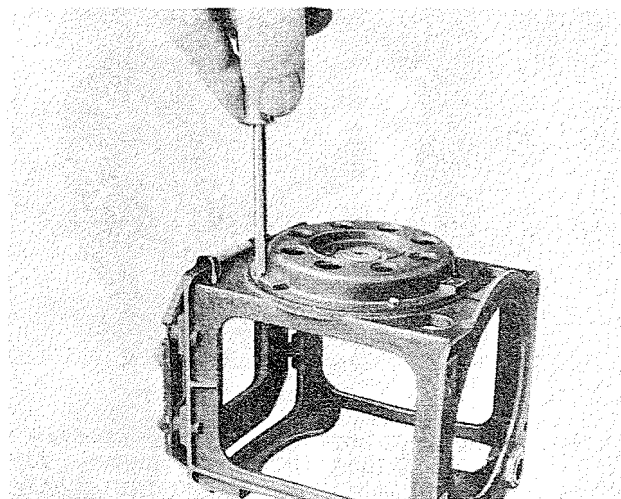

Figure 17
(10) Remove the four fillister-head machine screws and lock washers, and take the top bracket assembly off the chassis. (See figure 17.)
(11) Remove the bearing from the top bracket assembly, using bearing puller T100361, and place it in a dustproof container until ready for cleaning and inspection.